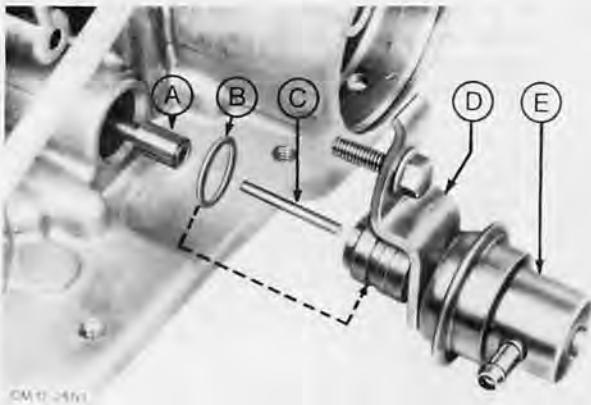

Fig. 84. Remove vacuum diaphragm
- Remove bolt securing vacuum diaphragm retainer to transmission housing. Remove vacuum diaphragm and actuating pin, then withdraw throttle valve from housing with aid of a magnet. Remove O-ring from diaphragm, Fig. 84.